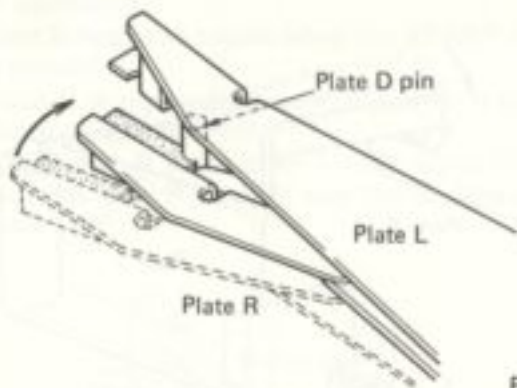

Fig. 19
6. While gear B makes a $\frac{1}{2}$ turn, gear B groove moves pawl C of plate R toward pin shaped section of plate D (Fig. 19).